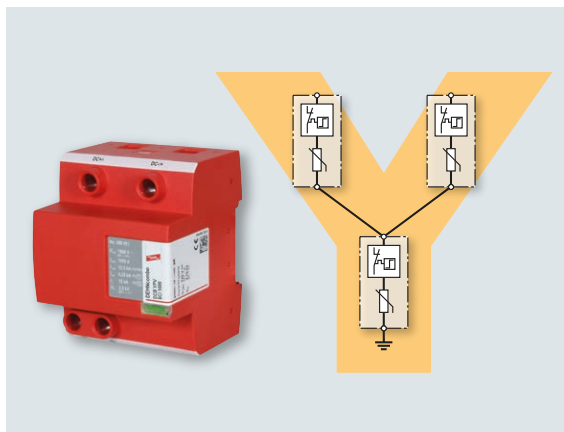

Figure 9 DEHNcombo YPV type 1 + type 2 combined arrester with fault-resistant Y circuit
With its proven fault-resistant Y circuit, DEHNcombo YPV (FM) fulfils the requirements mentioned above (**Figure 9**).